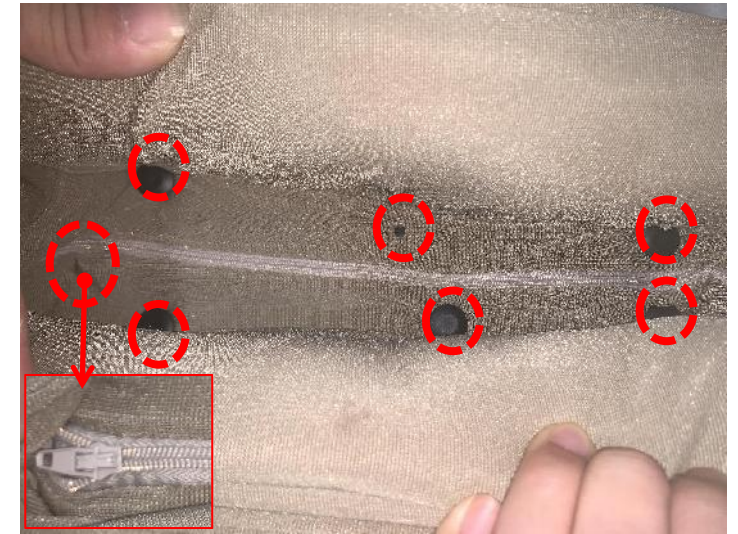

Figure 3
**3. Forcibly open the buckle, take out the air bag holster, and open the zipper to take out the air bag (Figure 3)